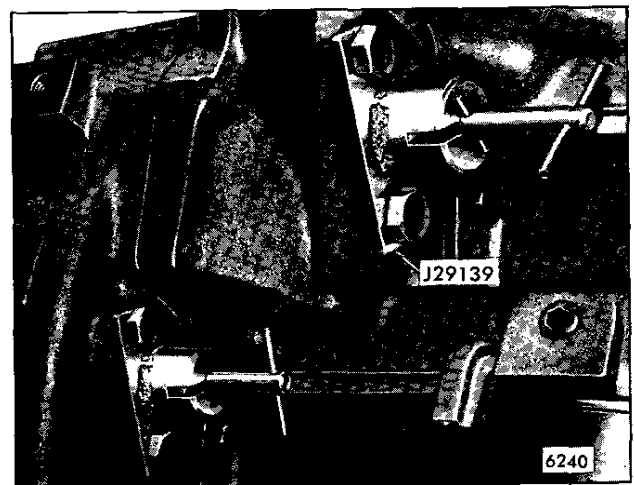

Fig. 2 - J 29139 Installed
Remove the dust cover in the flywheel housing and install tool J 29139 (Timing Pin and Guide) with attaching bolts loose. Insert the timing pin into the flywheel (the flywheel has been machined in four (4) places at 90° from each other to allow timing pin engagement). With the pin engaged, secure the tool in place by tightening the attaching bolts (Fig. 2).
3. Beginning at No. 1 cylinder, place the calibrated timing gage J 29014-1 on top of the injector follower so that the dial indicator stem rests on the projecting injector body ledge as shown in Fig. 2 in Section 14.2. A good indication that the No. 1 cylinder is on its compression stroke, is the No. 3 intake valve will be open.